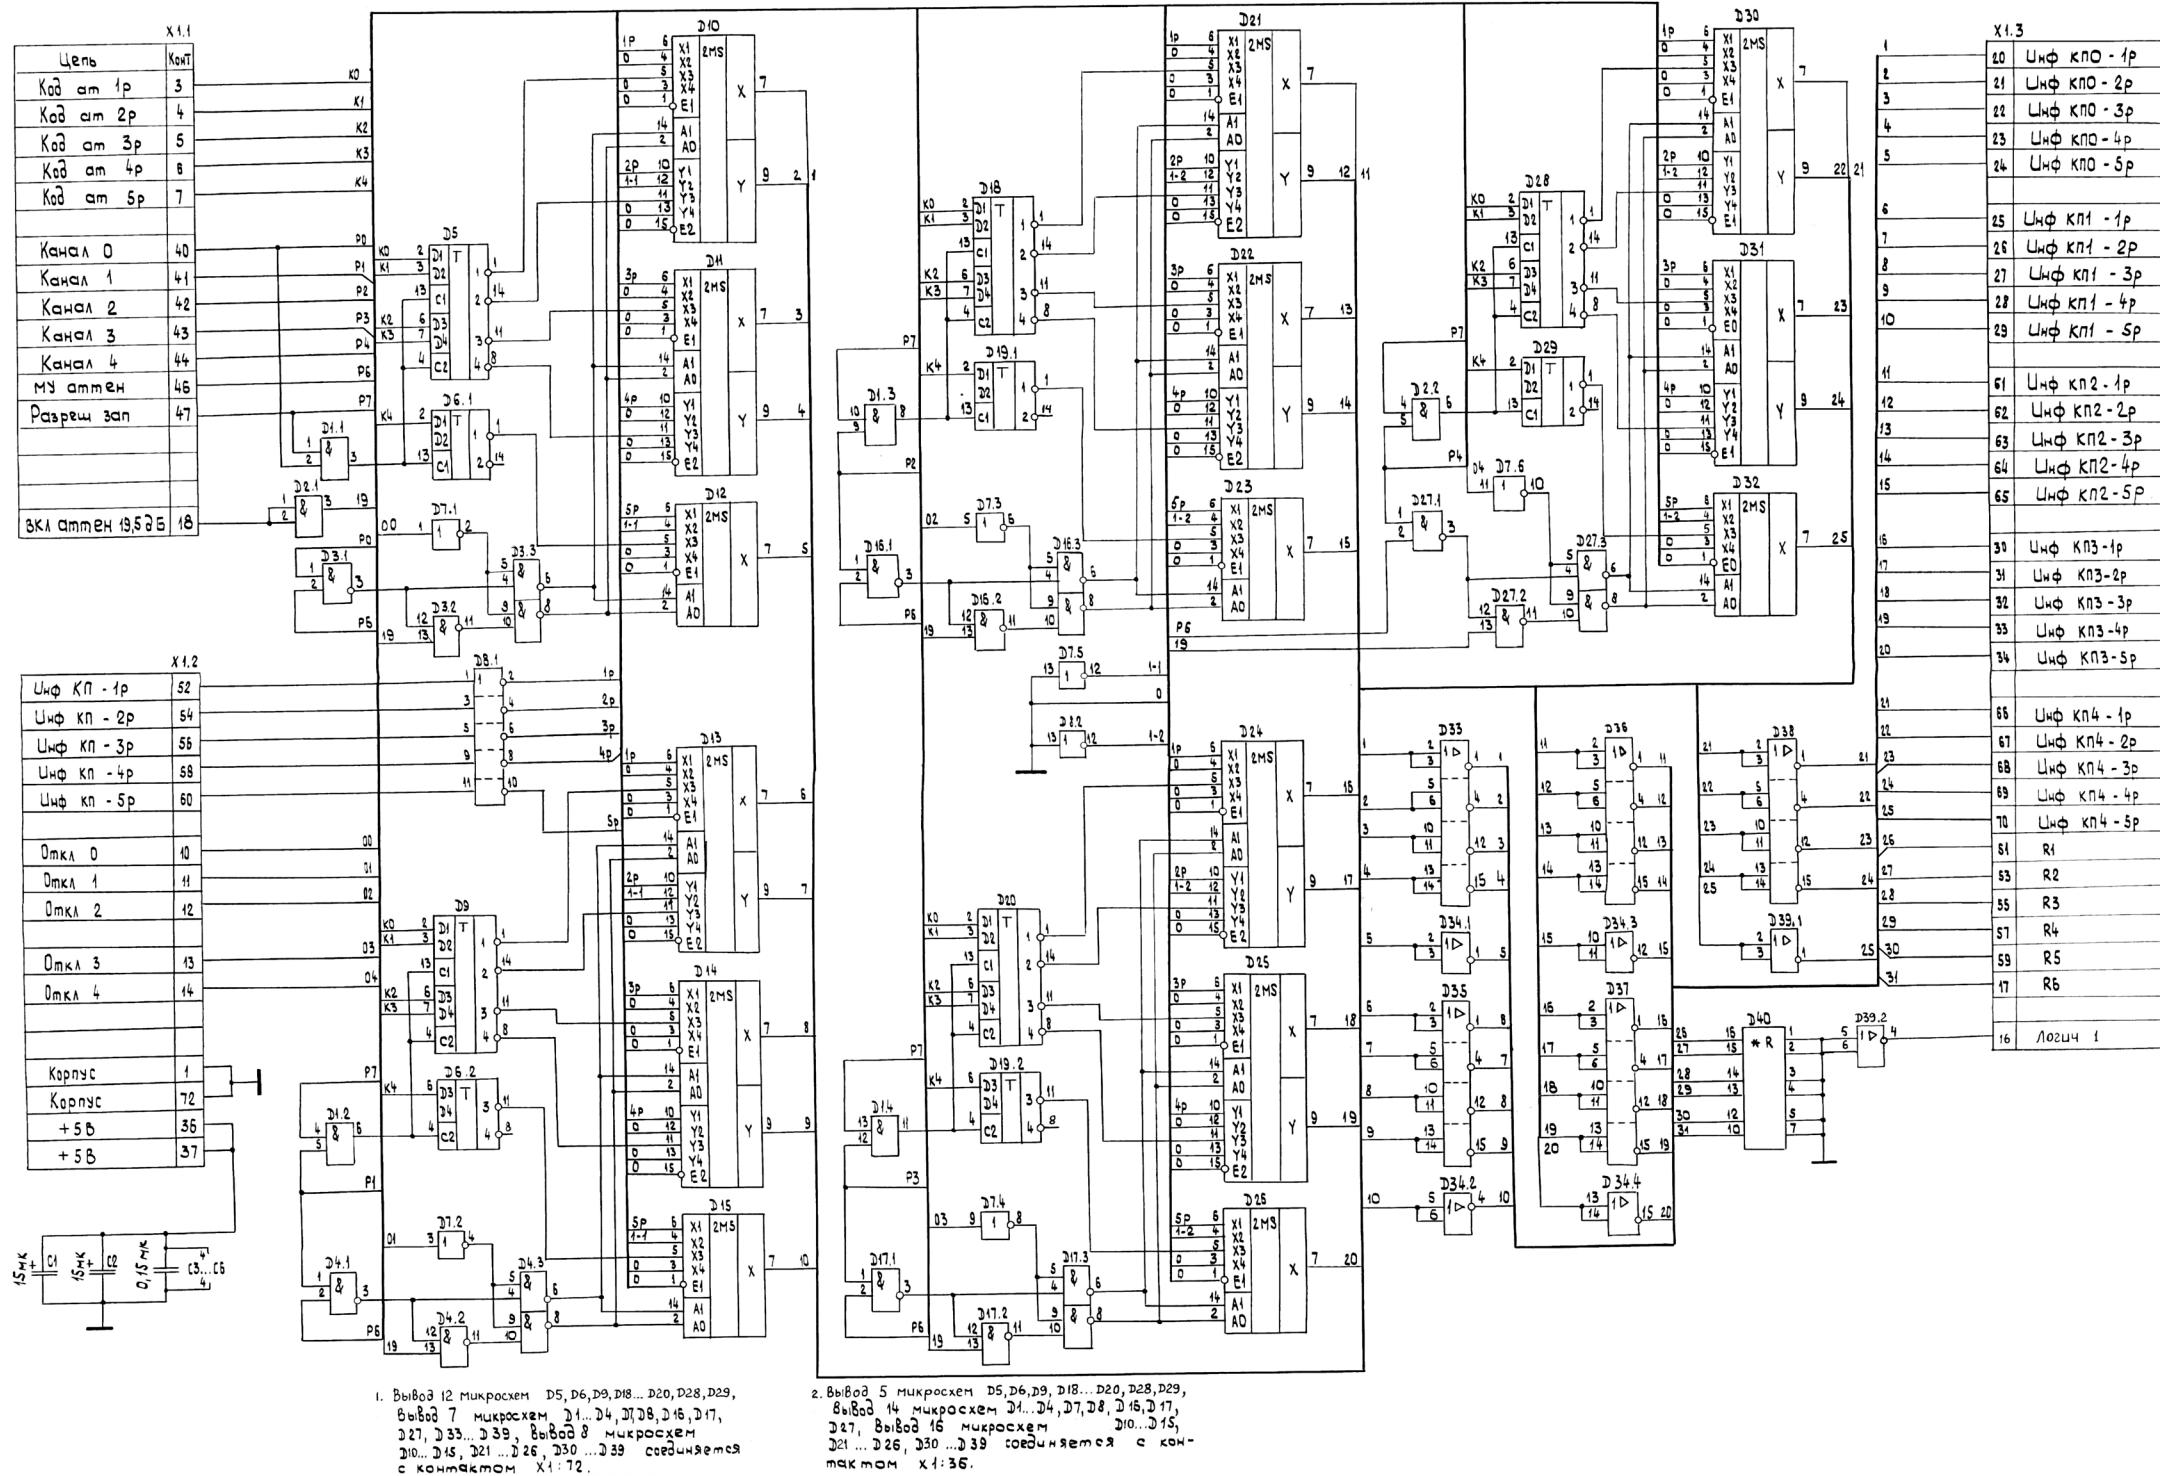

Figure 2.1 – Electric schematic diagram of RO H6.17.06.08 ЕФ3.035.074
2.1 During diagnostics and repair of RO H6.17.06.08 ЕФ3.035.074, refer to the electric schematic diagram shown in Figure 2.1.